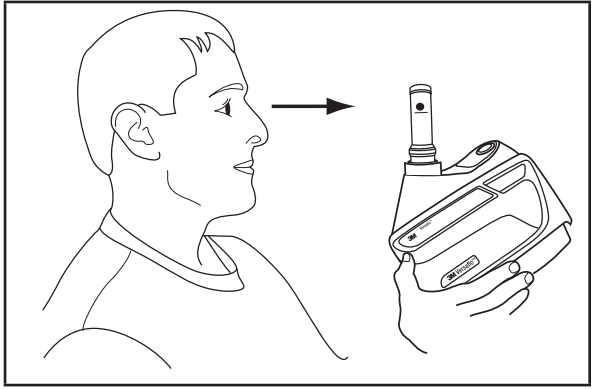

Fig. 14-2 – Checking airflow
- With the airflow indicator in a vertical position, ensure that the bottom of the floating ball rests at, or above, the minimum flow mark for the 'letter' representing your 'Zone' (Fig. 14-2). Airflow indicator must be in the vertical position for an accurate reading.